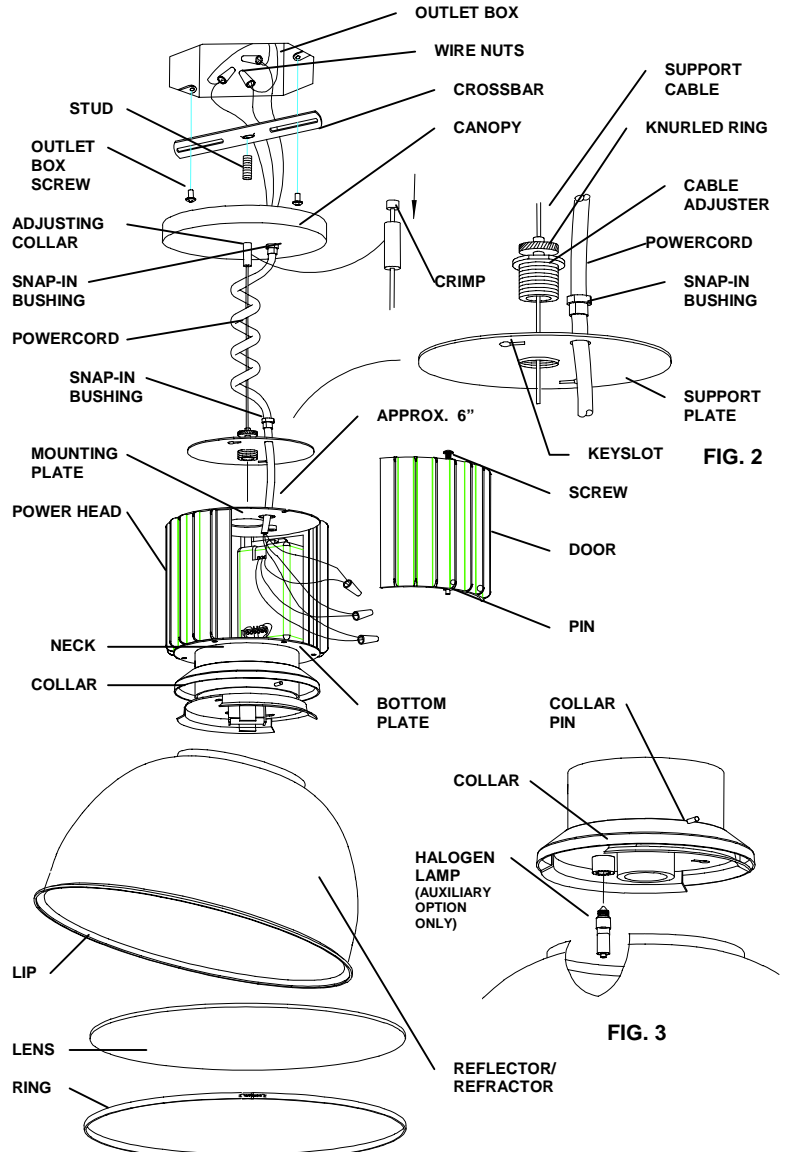

FIG. 1
1. Remove DOOR from POWERHEAD by loosening SCREW on top of MOUNTING PLATE (SCREW is located directly above PIN on POWERHEAD DOOR which protrudes through BOTTOM PLATE). Pull DOOR directly away from POWERHEAD (Fig. 1).
4. Place POWERCORD down through hole in SUPPORT PLATE. Note: The end of POWERCORD with fiberglass sleeving and tape on each conductor should be placed inside the POWERHEAD. Secure POWERCORD in place by wrapping SNAP-IN BUSHING around POWERCORD and pushing BUSHING down into hole in SUPPORT PLATE. Note: Allow at least six inches of POWERCORD inside POWERHEAD (Fig. 1).
5. Loosen KNURLED RING on CABLE ADJUSTER. Pass SUPPORT CABLE down into opening in top of CABLE ADJUSTER. Note: SUPPORT CABLE end without CRIMP should be placed into CABLE ADJUSTER. Make certain ADJUSTING COLLAR has been placed up SUPPORT CABLE so CRIMP will go down into recessed portion of ADJUSTING COLLAR prior to passing SUPPORT CABLE into CABLE ADJUSTER (Fig. 1 & Fig. 2).
6. Pass POWERCORD through hole in MOUNTING PLATE and align KEYSLOTS in SUPPORT PLATE with two SCREWS on top of MOUNTING PLATE. Turn SUPPORT PLATE counter-clockwise until SCREWS are in the small slot area of the KEYSLOT. Fully tighten SCREWS. (Fig. 1 & Fig. 2).
2. Adjust the overall length of SUPPORT CABLE to approximately the same length as POWERCORD by pushing excess CABLE down into CABLE ADJUSTER. Caution: make certain CABLE does not interfere with internal wiring and components (Fig. 1 & Fig. 2).
3. Pass POWERCORD through hole in CANOPY (Fig. 1).
2. Push any excess POWERCORD into hole in CANOPY, secure POWERCORD in place by wrapping SNAP-IN BUSHING around POWERCORD and push BUSHING into hole in CANOPY (Fig. 1).
3. Reinstall DOOR and secure in place by tightening SCREW firmly onto MOUNTING PLATE (Fig. 1).
1. Place lens up into lip of REFLECTOR/REFRACTOR. Secure in place by expanding RING around outside lip of REFLECTOR/REFRACTOR allowing spring tension of RING to close around lip (Fig. 1).